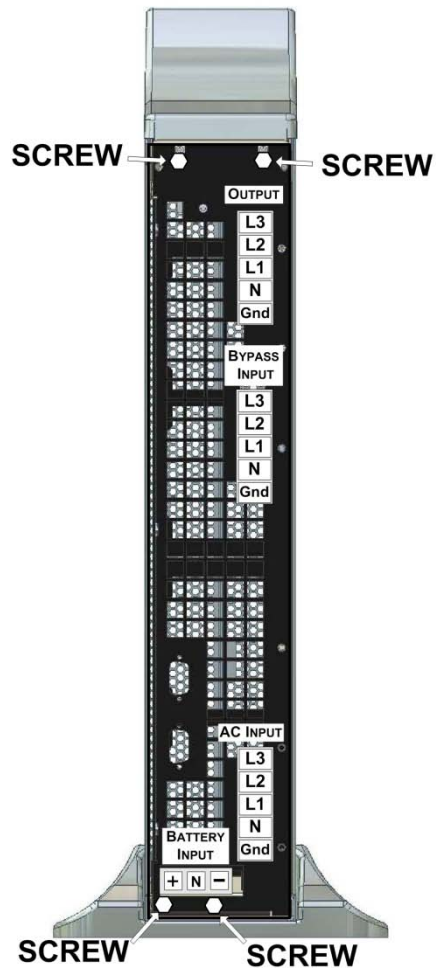

Figure 19: Remove the four screws from the rear panel
19. On the rear panel of the UPS, remove the screws that secure the internal UPS body to its external shell. (See Figure 19. Note - the number and position of the screws may differ from that show in Figure 19.)